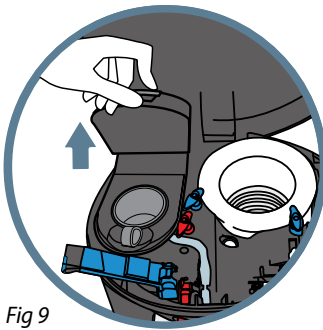

Fig 9
10. Turn the red twist locks on each side to release the coffee pod holder. (Fig. 9).